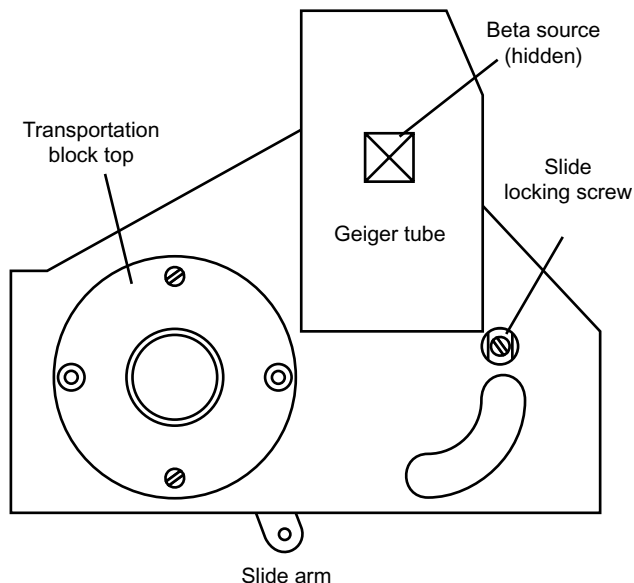

Figure 4.6. The slide back in its locked position, with the transportation block secured and the beta source below the Geiger tube.
8. The transportation block top has to be locked to the chassis by the two block screws. Insert and secure them in the two alternate positions, 90° to the previous ones. Always keep the top in this position, also when the beta source is safely secured under the Geiger tube. The final assembly is shown in figure 4.6.